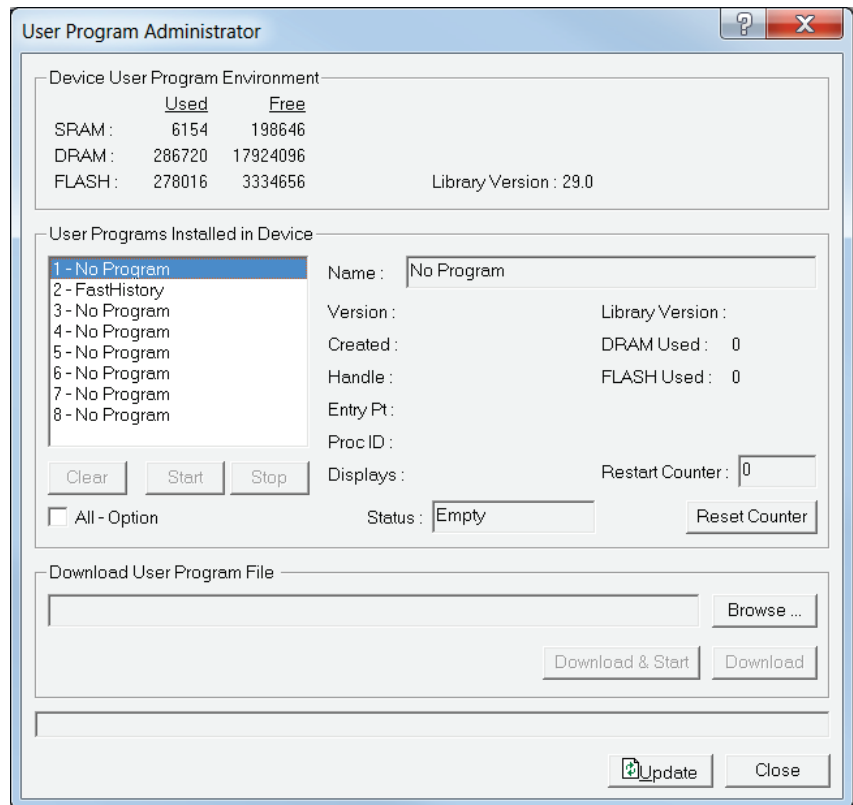

Figure 8. User Program Administrator
3. Select **Utilities > User Program Administrator** from the ROCLINK menu bar. The User Program Administrator screen displays (see *Figure 8*):